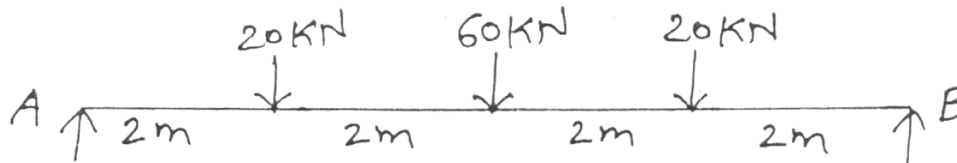

Fig. 1
- Q1) a)** A simply Supported beam of span 8m loaded as shown in fig.1. Find the shear force & bending moment at a section 4m from left end. Draw ILD for support reactions, shear force & Bending Moment. [9]